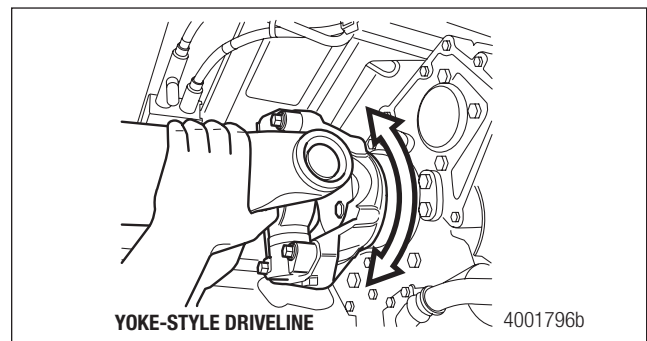
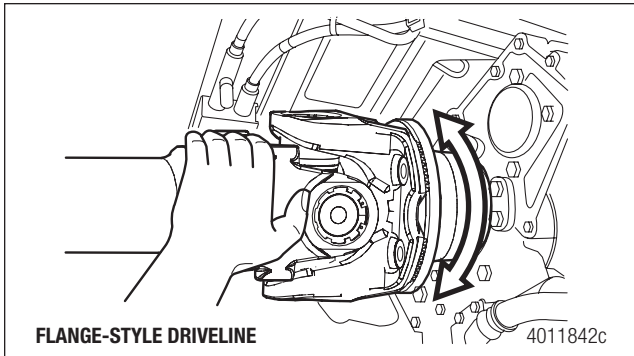

Figure 4.1
Figure 4.2
- b. Move the end yoke UP-AND-DOWN and SIDE-TO-SIDE. There shouldn't be any movement where the yoke or flange connects to the input and output shafts. Figure 4.1 and Figure 4.2.
Hold the yoke or flange with one hand and rotate it LEFT-TO-RIGHT while you check end play for radial looseness. Figure 4.1 and Figure 4.2.